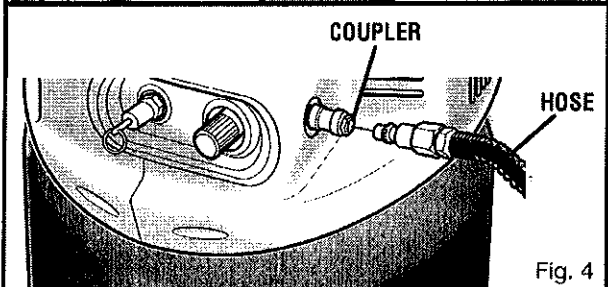

Fig. 4
- At this point insert the hose into the quick coupler already installed on the compressor (Fig. 4)